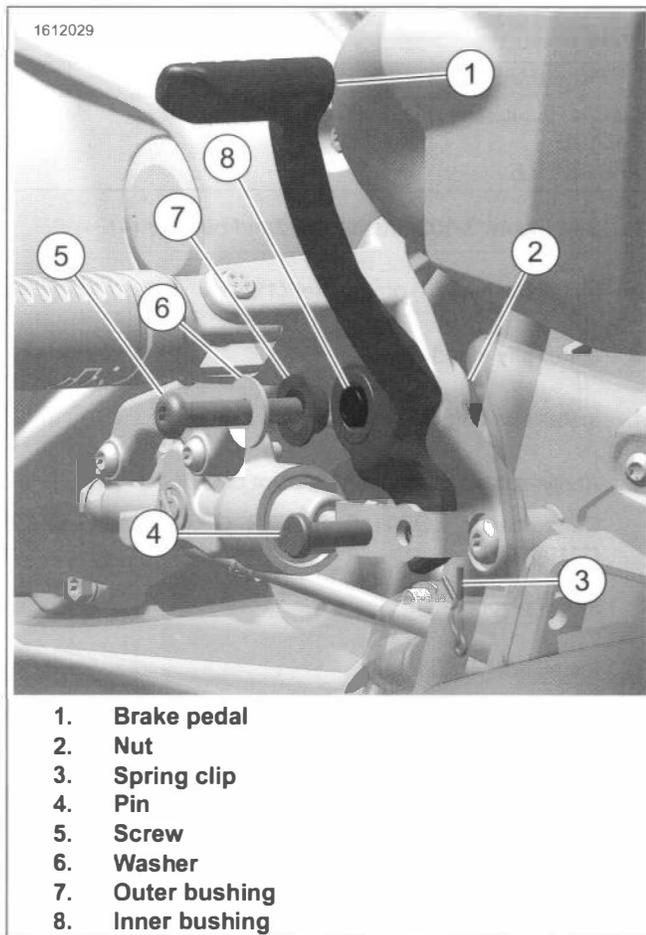

Figure 3-100. Rear Brake Pedal
1. See Figure 3-100. Remove spring clip (3) and pin (4).
2. Remove screw (5), nut (2), washer (6) outer bushing (7).
3. Remove brake pedal (1) and inner bushing (8).
1. See Figure 3-100. Install inner bushing (8), and break pedal (1).
2. Install outer bushing (7), washer (6), screw (5) and nut (2). Tighten screw.